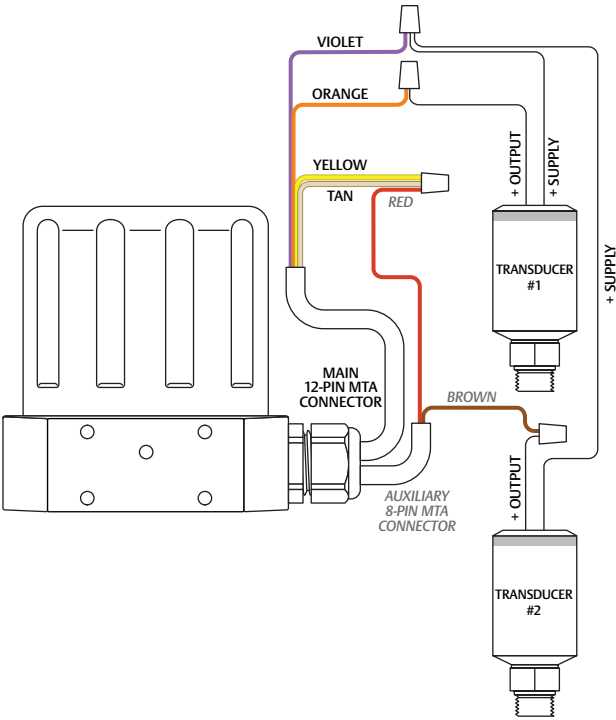

Figure 38: Switch Between Two External Feedback Sources
**NOTE** The wiring shown in *Figure 38* on the previous page is for two wire transducers. Refer to *Figure 31* and *Figure 32*, respectively, for correct wiring of three wire and four wire transducers.
The ER5000 can monitor signals from a number of analog sources, as well as monitoring the state of internal variables, during normal system operation. This is useful for data acquisition to perform trend analysis on the system. The two transducers (e.g., with outputs P1 and P2) shown in *Figure 38* on the previous page can be continuously monitored by a PC program such as the ERTune™ program.